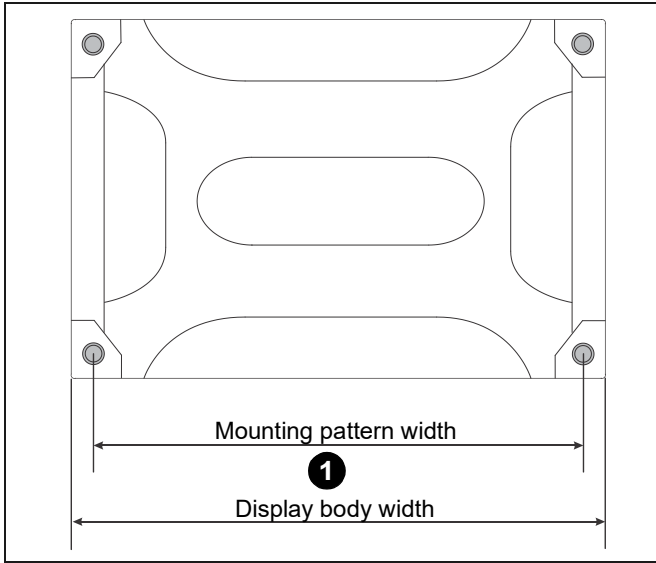

Figure 1
1. Determine the exact width of both the mounting pattern and the body of the display. (See Figure 1)